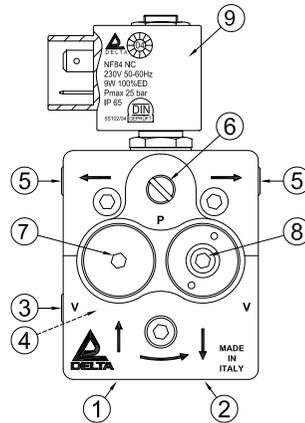

Fig. 1
- Using a 6 mm Allen wrench, remove the 1/4" plug from return port (Fig. 1).
- Insert and screw a 1/4" plug into the return port (Fig. 1).